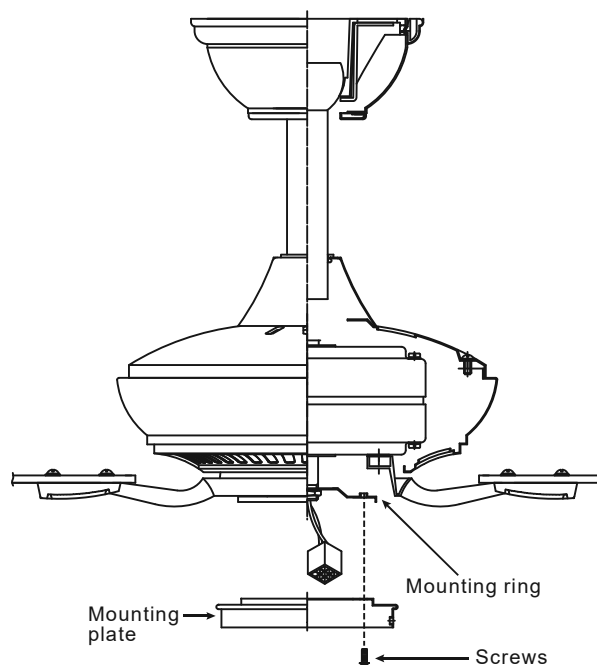

Fig. 21
2. Place the key holes on the mounting plate over the 2 screws previously loosened from the mounting ring, turn mounting plate until it locks in place at the narrow section of the key holes. Secure by tightening the 2 screws previously loosened and the one previously removed. (Fig. 21)
| Fan wobble.         | <ol style="list-style-type: none"> <li>1. Check that all blade and blade arm screws are secure.</li> <li>2. Most fan wobbling problems are caused when blade levels are unequal. Check this level by selecting a point on the ceiling above the tip of one of the blades. Measure this distance.(Fig. 21) Rotate the fan until the next blade is positioned for measurement. Repeat for each blade. The distance deviation should be equal within 1/8".</li> <li>3. Use the enclosed Blade Balancing Kit if the blade wobble is still noticeable.</li> <li>4. If the blade wobble is still noticeable, interchanging two adjacent (side by side) blades can redistribute the weight and possibly result in smoother operation.</li> </ol> <p>WARNING: TO REDUCE THE RISK OF PERSONAL INJURY, DO NOT BEND THE BLADE ARM WHILE INSTALLING, BALANCING THE BLADES, OR CLEANING THE FAN. DO NOT INSERT FOREIGN OBJECTS BETWEEN ROTATING FAN BLADES.</p>                                   |